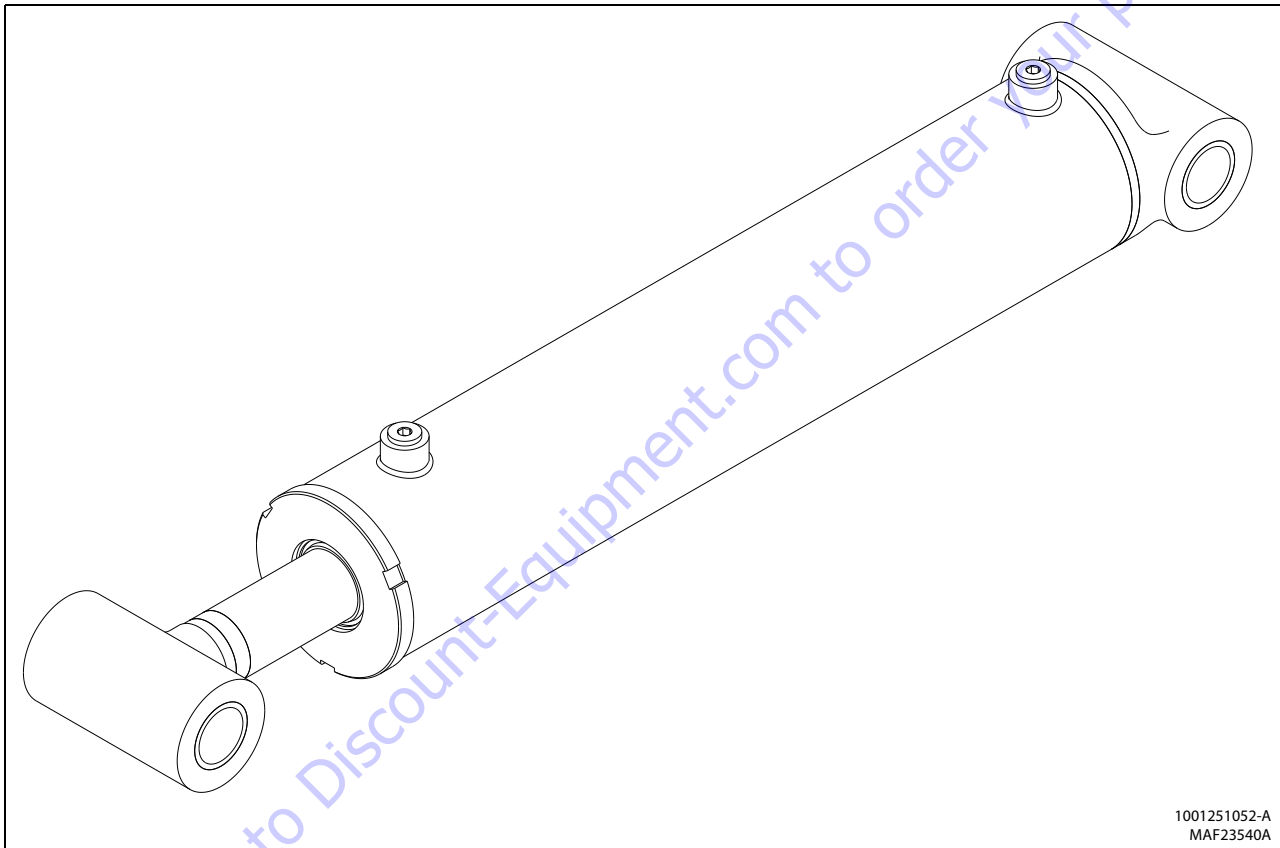

Figure 5-24. Master Cylinder Assembly
**NOTE:** Refer to Figure 5-24. Master Cylinder Assembly